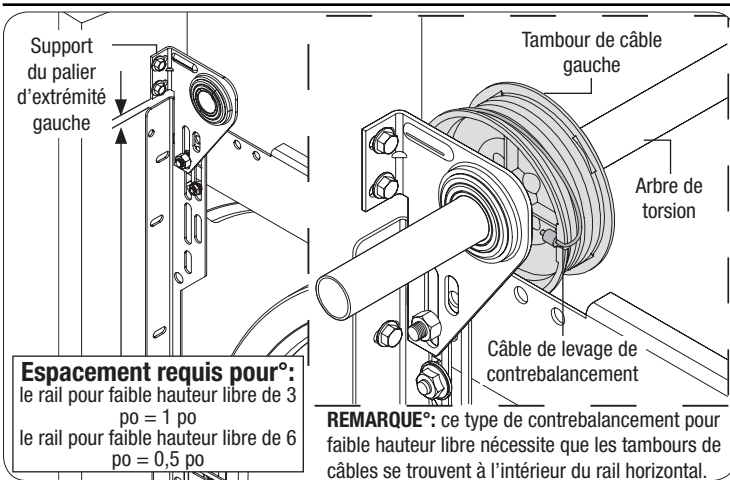

FIGURE 4.3
**IMPORTANT!** MAINTENEZ L'ESPACEMENT SPÉCIFIÉ ENTRE LES FIXATIONS DES PALIERS D'EXTRÉMITÉS ET LES CORNIÈRES, COMME INDIQUÉ DANS LA **FIGURE 4.3**, AFIN D'ASSURER UN DÉGAGEMENT APPROPRIÉ POUR LE CONTREBALANCEMENT.